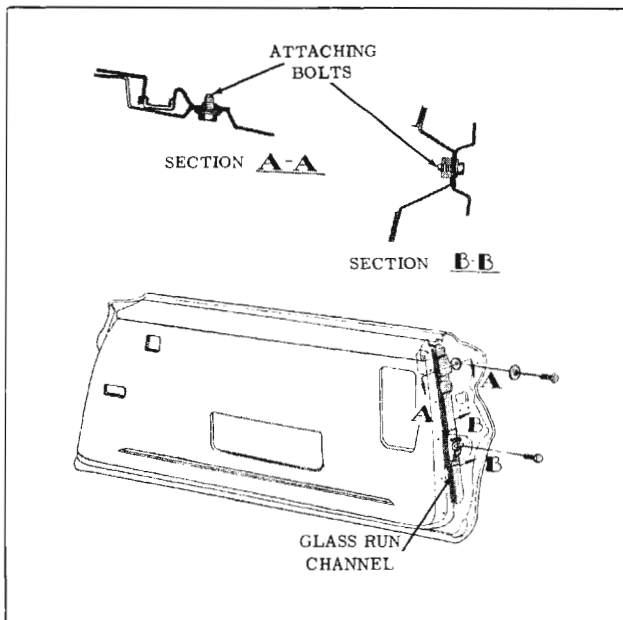

Fig. 16-254 Front Door Glass Run Channel (47 and 67 Styles)
4. Remove bolts securing run channel to lock pillar panel and remove run channel from door. (Fig. 16-254)